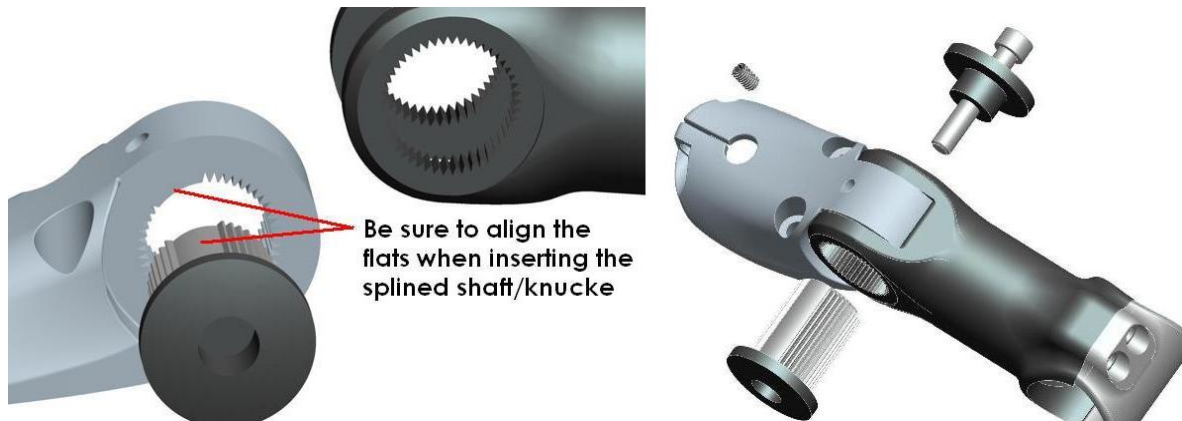

Fig. 8
Step 8) Slip the Stem Extension over the Stem Base. Then insert the Splined Shaft/Knuckle into the Stem Extension being sure to align the slot of the Splined Shaft with the slot in the Stem Base. This assures a smooth fit and that the Set Screw (which will be installed in step #11) will seat properly. This will set the angular position of the stem, so double check the Stem Extension's position before installing the Splined Shaft. See Fig.8